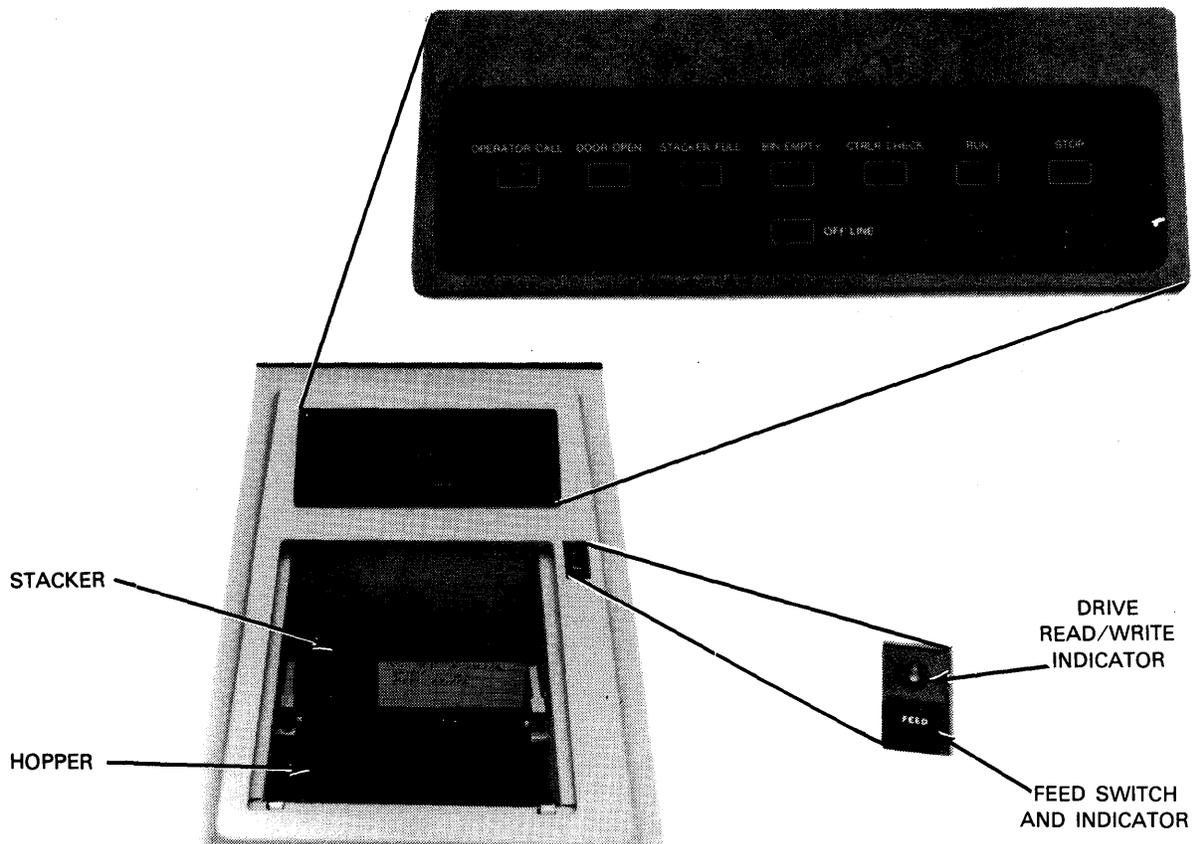

Figure 3-1. Operator Control Panel
The operator control panel (Figure 3-1) is located on top of the cabinet. None of the controls and indicators are functional unless main power is first applied on the power control panel. The controls and indicators for the operator control panel are listed and described in Table 3-1.
6. Press the FEED switch on the operator control panel (Figure 3-1). This moves a diskette into the disk drive.